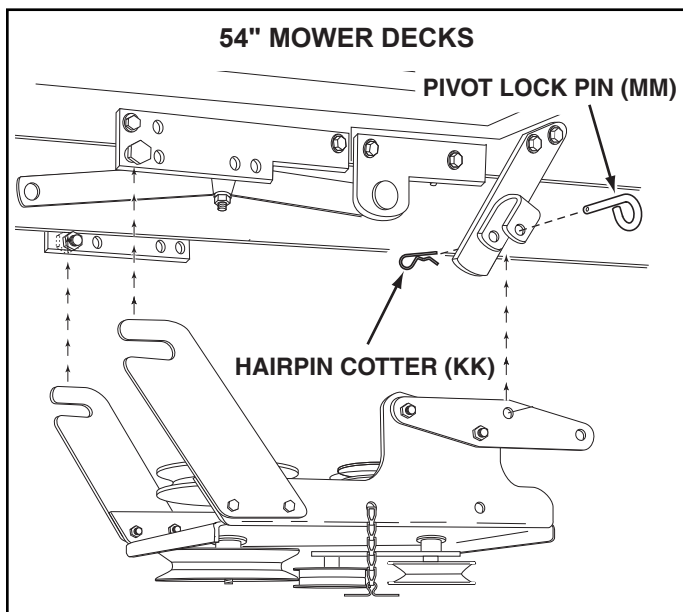

**FIGURE 19**
**STEP 19: (SEE FIGURE 19)**
- Attach the rear of the clutch/idler assembly to the tractor frame by sliding the notched arms of the assembly onto the shoulder bolts assembled to the frame brackets. Lift the front of the assembly, positioning the upper idler pulley so that it clears the engine pulley. Attach the front of the assembly to the hanger brackets using two pivot lock pins (MM) and two hairpin cotter (KK).